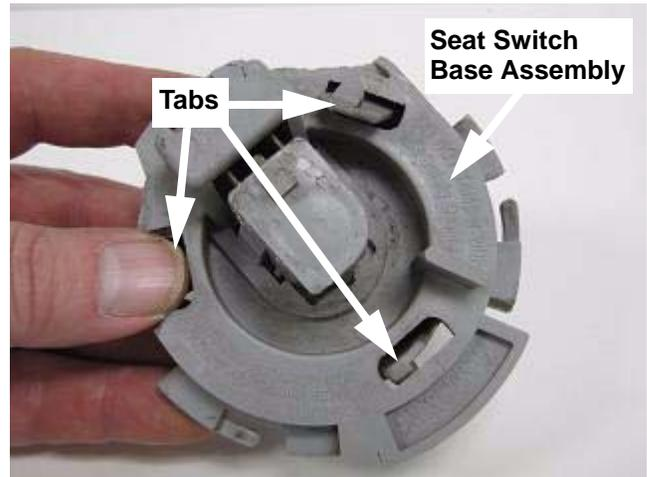

FIGURE 6
13. Remove the large push cap from the seat switch assembly base by depressing the three (3) tabs inward and down to release the large push cap from the seat switch base assembly. Figure 6 shows location of the three (3) tabs.